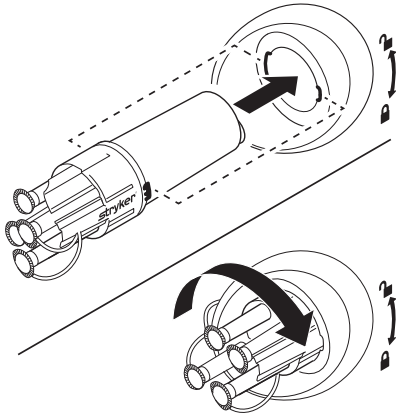

Figure 3 Install and Lock Manifold
1. Align the keyed manifold with the slotted receptacle and push the manifold into the receptacle of the desired canister of the rover (Figure 3).